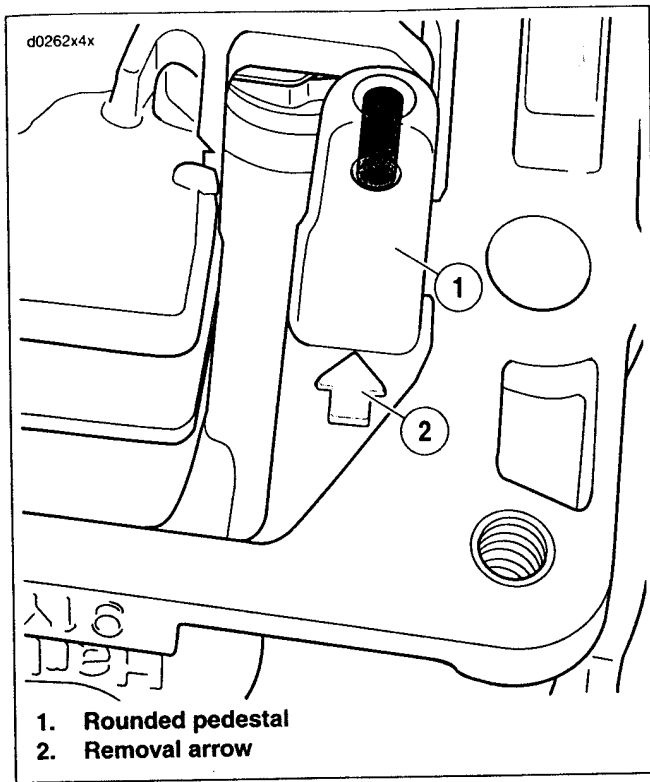

Figure 4-5. Float Pin Pedestal
See Figure 4-5. A cast-in arrow (2) points at the rounded pedestal (1) that has the interference fit float pin. The pin is a uniform width throughout its entire length, so it can be installed starting from either end.